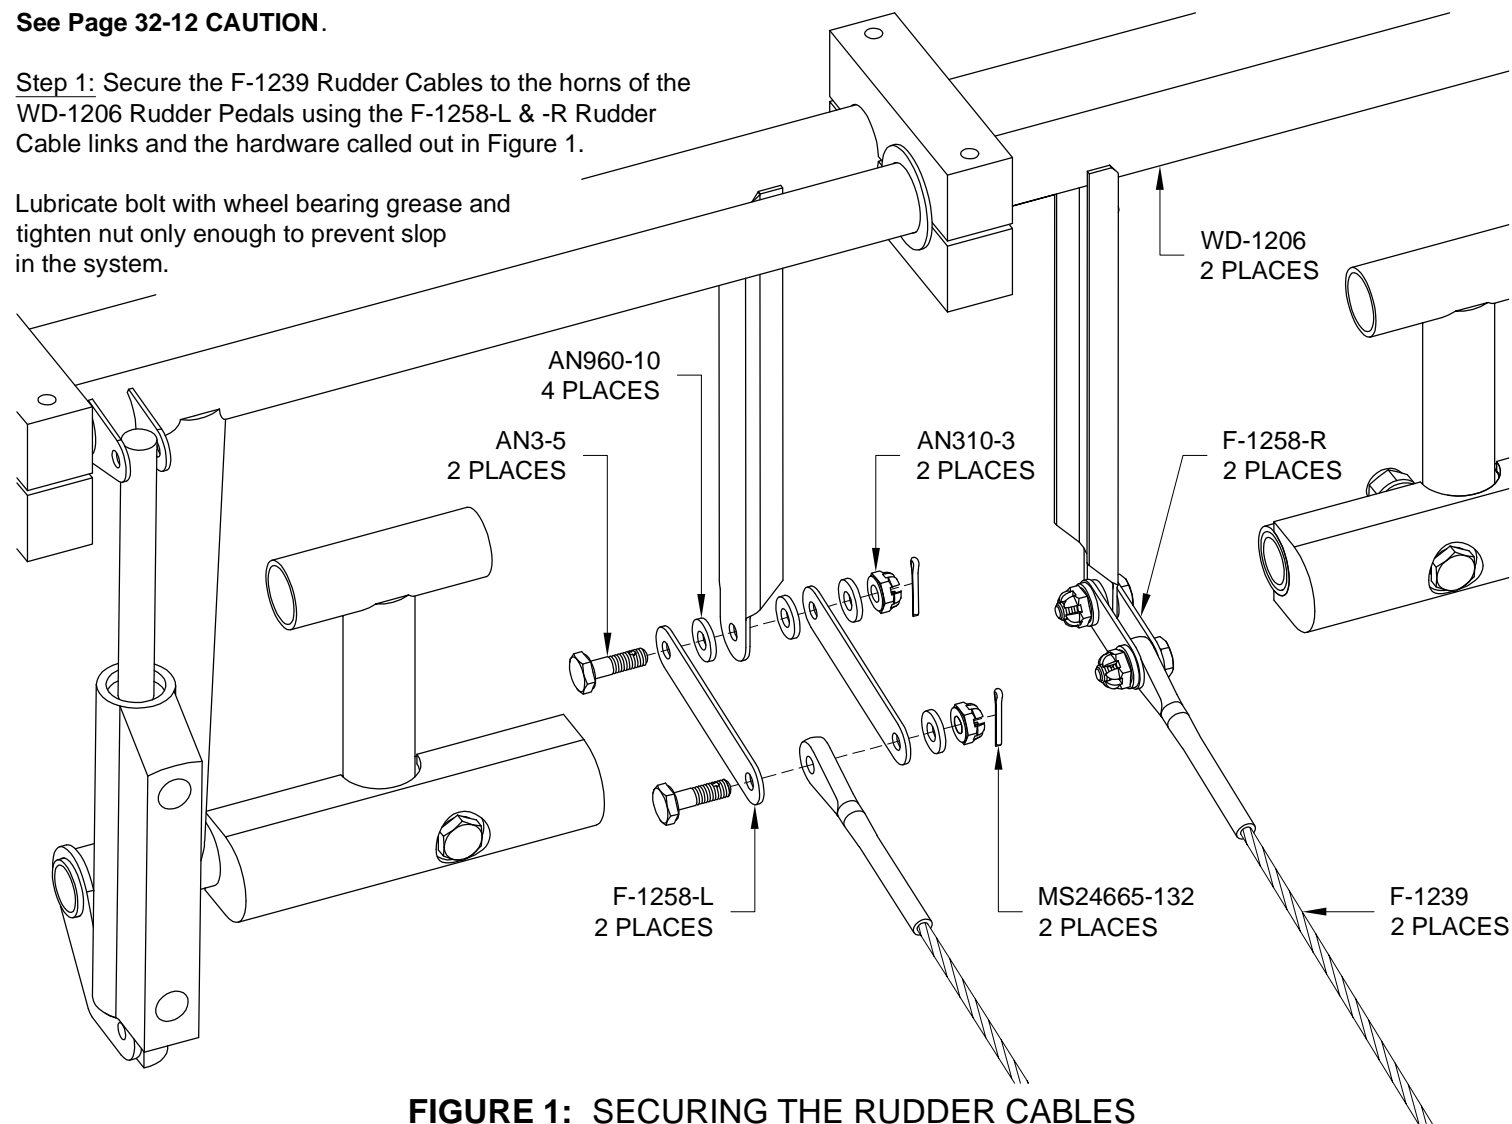

FIGURE 1: SECURING THE RUDDER CABLES
Step 1: Secure the F-1239 Rudder Cables to the horns of the WD-1206 Rudder Pedals using the F-1258-L & -R Rudder Cable links and the hardware called out in Figure 1.